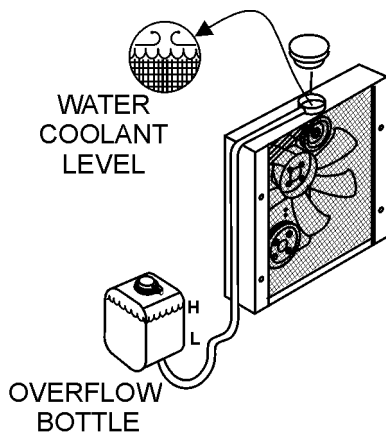

Figure 13. Radiator Coolant
1. Remove the radiator cap, and check the cooling water level inside the radiator (Figure 13).